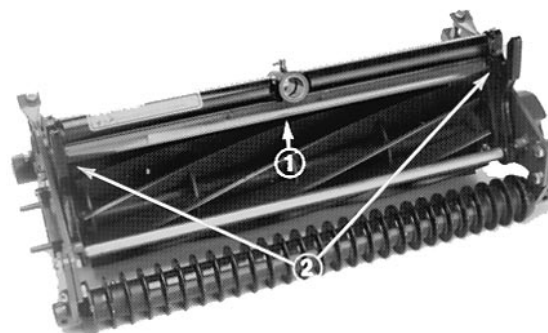

Figure 3
1. Set the cutting unit in normal cutting position. (Fig 3).
2. Loosen the capscrews and nuts securing the shield to each side-plate, adjust the shield to the desired height and tighten the fasteners (Fig. 3).